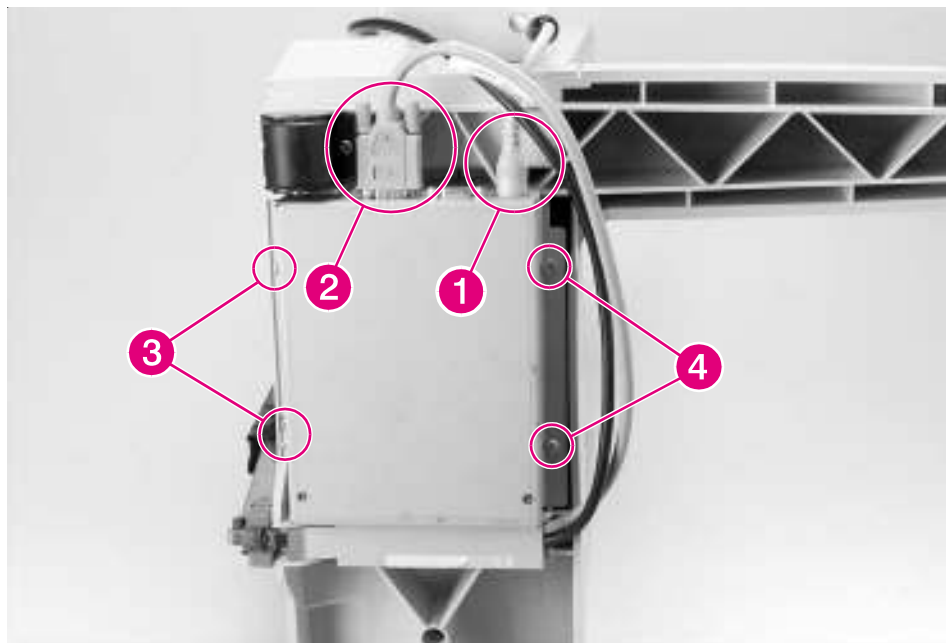

Figure 6-165 8-bin Mailbox Controller PCA (1 of 2)
- 3 Release the Controller PCA Assembly from the bottom of the 8-bin Mailbox frame (see figure 6-165 on page 460, steps 1 through 7).
- 2** Reinstall the 8-bin Mailbox Controller PCA Assembly (see Figure 6-165).
- 2 Locate the power cable that runs from the 8-bin Mailbox Power Supply down to the 8-bin Mailbox Controller PCA, and disconnect the cable from the Controller PCA (Figure 6-165, callout 1).
- 1 Disconnect the power cable and the C-link cable from the 8-bin Mailbox Controller PCA (see Figure 6-165, callouts 1 and 2).